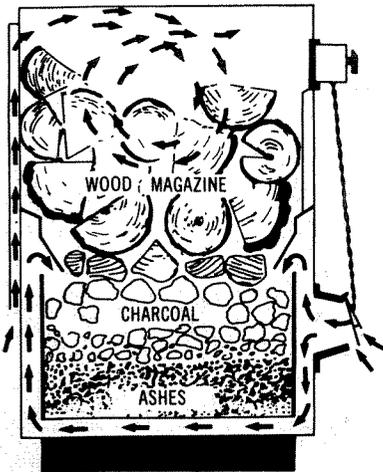

Fig. 25. Valley Comfort automatic circulating heater, showing flow-patterns.
6. **Hunter Enterprises Orillia, Ltd.** (manufacturer), 1 Colborne St. West, P.O. Box 400, Orillia, Ontario, Canada L3V 6K1. Blower optional on both models. Valley Comfort's flow pattern similar to that of the Riteway heaters. Nonelectric or electric thermostat controls damper. See Fig. 25 and Table 3.